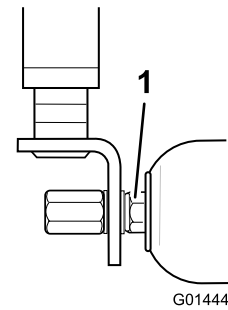

Figure 82
2. If there is excessive movement, carefully tighten the nuts at each end of the roller with the wrench just enough to remove any end play (Figure 82).